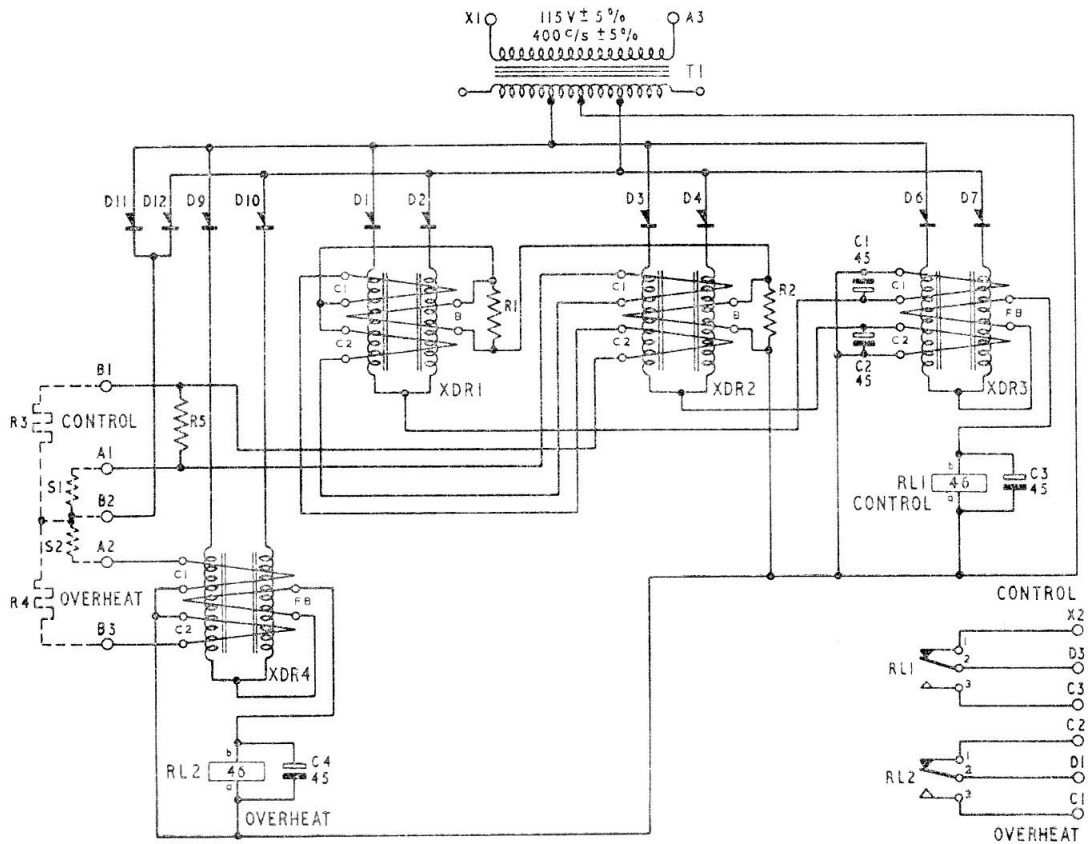

Fig. 5. Circuit diagram for Type 4, Mk. 1 and 4 controllers
7. The control circuit (fig. 5) consists of sensing element S1, fixed resistors R3, R5, R1 and R2, transducers XDR1, XDR2 and XDR3, capacitors C1, C2 and C3, and relay RL1.
13. The overheat circuit (*fig. 5*) consists of a sensing element S2, a fixed resistor R4, transducer XDR4, capacitor C4, rectifiers D9 and D10, and relay RL2. The overheat relay is provided with single change-over contacts brought out to terminals C1, C2 and D1. The contacts are isolated from all other circuitry. Normally the "make" contacts C2 and D1 are in series with the power contactor coil; thus when the control relay is energized and the overheat relay is de-energized, power is applied to the windscreen. Relay RL2 is identical to RL1 in all respects and is controlled by transducer XDR4, which has bi-stable operation as in XDR3.